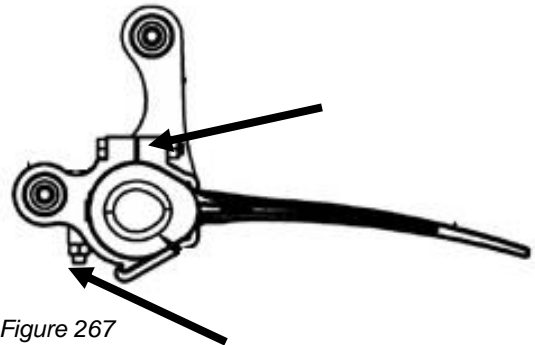

Figure 267
6. After the reel is removed the spider clamp can be removed by removing the clamp bolts. Figure 267